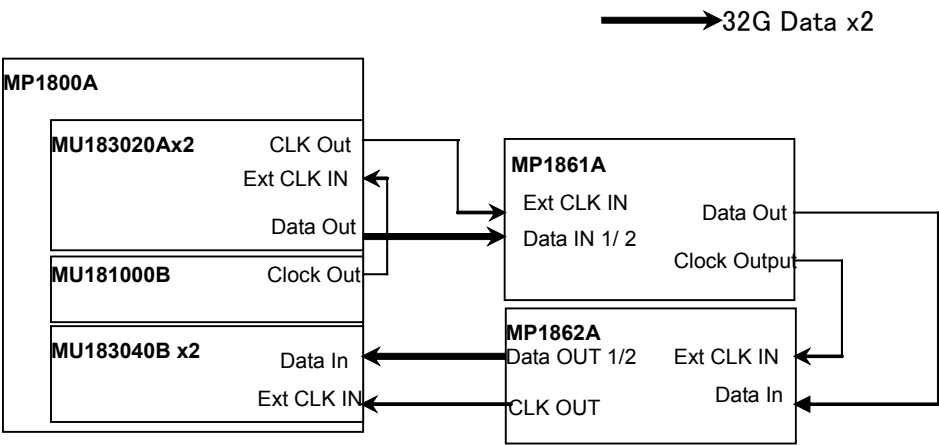

Figure 6.3.1-1 Connection Diagram for Operating Frequency Range Test
Figure 6.3.1-1 shows the connection example using MP1861A, MU183020A (MU183020A-x01, x22/x23, x30), MP1862A, MU183040B (MU183040B-x01, x20), and MU181000A/B. Before connecting the devices, confirm that the MP1861A output appropriate frequency and level of signals.
1. Connect each measuring instrument using cables as shown in Figure 6.3.1-1.